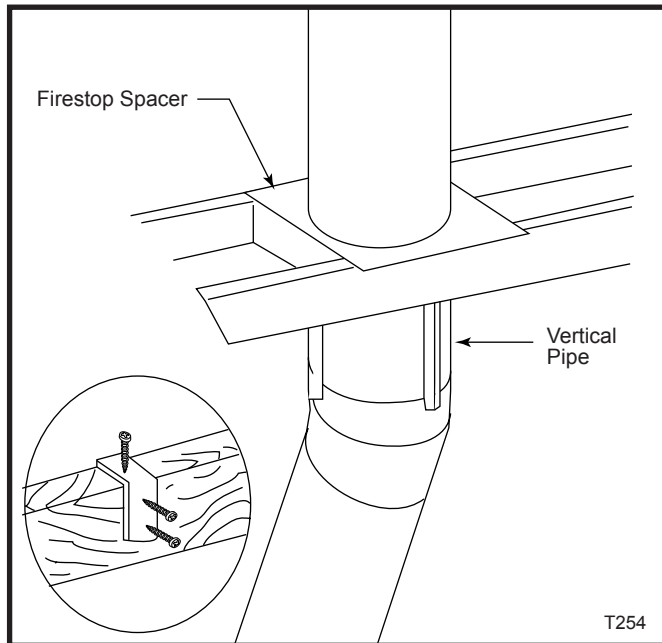

Fig. 12 Offset installation.
4. The return elbow has 18" (457 mm) support straps. The support straps should be nailed to the framing in the manner indicated in Figure 12. It may be necessary to add framing or lengthen the straps with hanger iron to support chimney pipe and elbows.